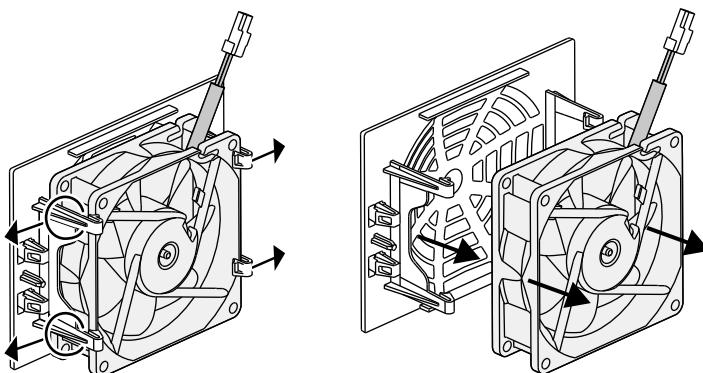

Fig. 65: Disassembly of the fan grill
5. The fan can also be pulled off the fan grill. To do this, press the fastening straps slightly outward and pull off the fan. Fig. 65